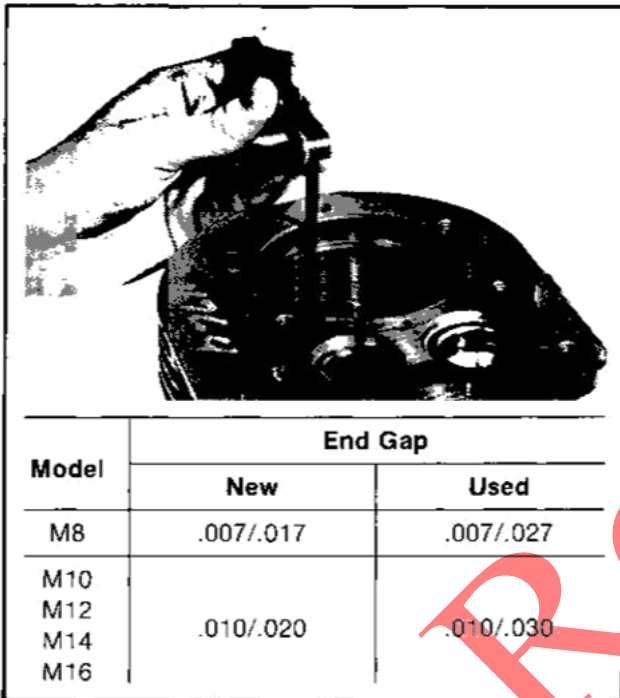

Figure 11-11. Measuring Piston Ring End Gap.
3. Before installing new rings on piston, place top two rings, each in turn, in its running area in cylinder bore and check end gap (see Figure 11-11).